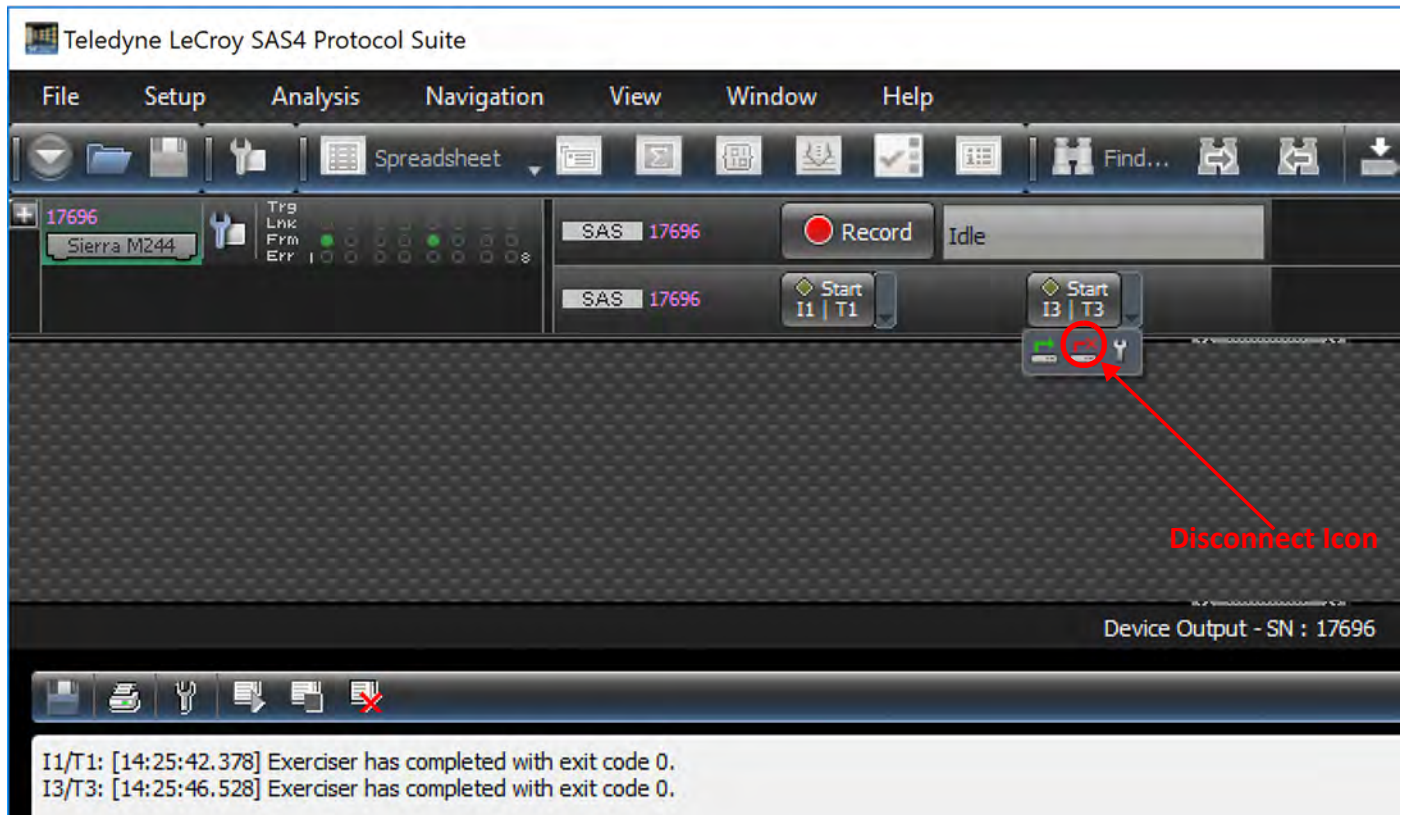

Figure 8.37: Disconnect Icon: Script Stopped and Link Disabled
3. If you select the **Disconnect** icon below the **Start/Stop** button, the link between the Initiator and Target will go down. See Figure 8.37.